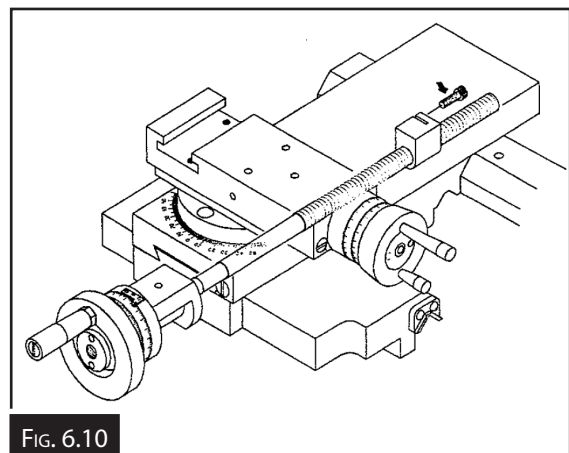

FIG. 6.10
3. With a long hex key in the cap head screw, make only small adjustment. Operating the cross slide several times by hand to be sure of smooth operation through out the travel. (Fig. 6.10)